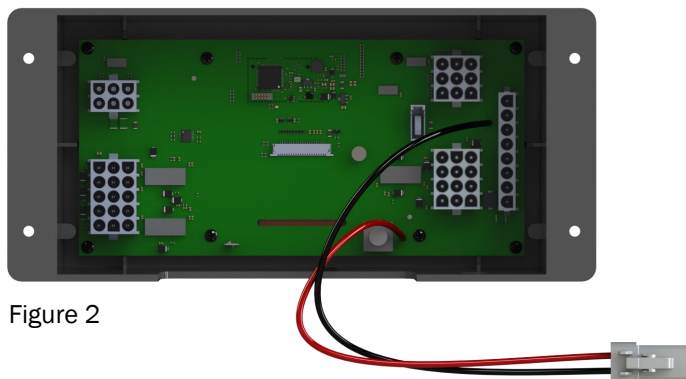

Figure 2
3. Remove the Reporter and ensure that all connections are secured, and that the wires are in good condition Reference Figure 2.